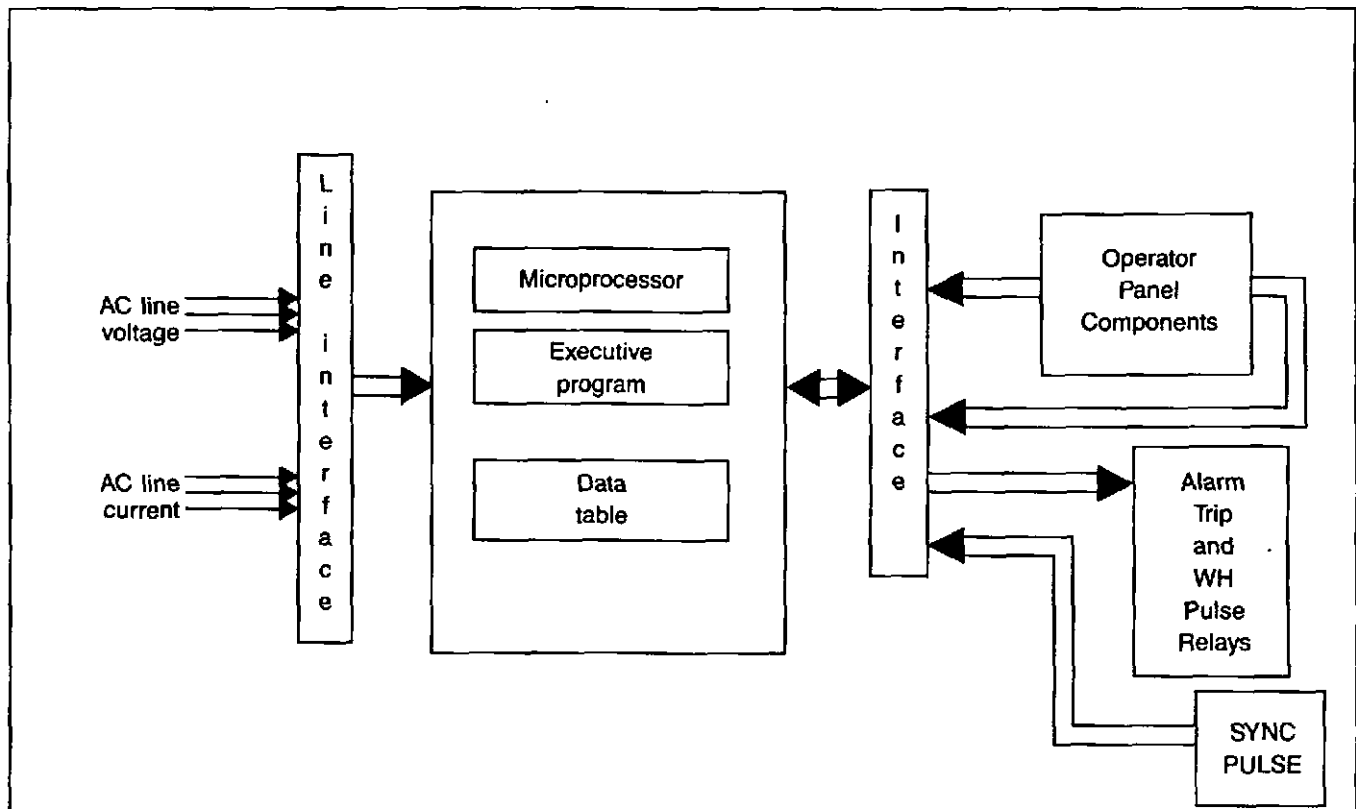

Figure 5.1 — IQ Data Plus II Basic Block
**5.1 Basic Block** — The IQ Data Plus II is controlled by a self-contained microprocessor which is directed by an "executive program" resident in ROM (read-only memory). (See Figure 5.1.) The microprocessor directs the following 4 operations: